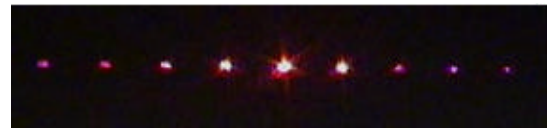

Fig. 7 The diffraction pattern of a linear grating
- Observe the diffraction pattern (see Fig. 7).